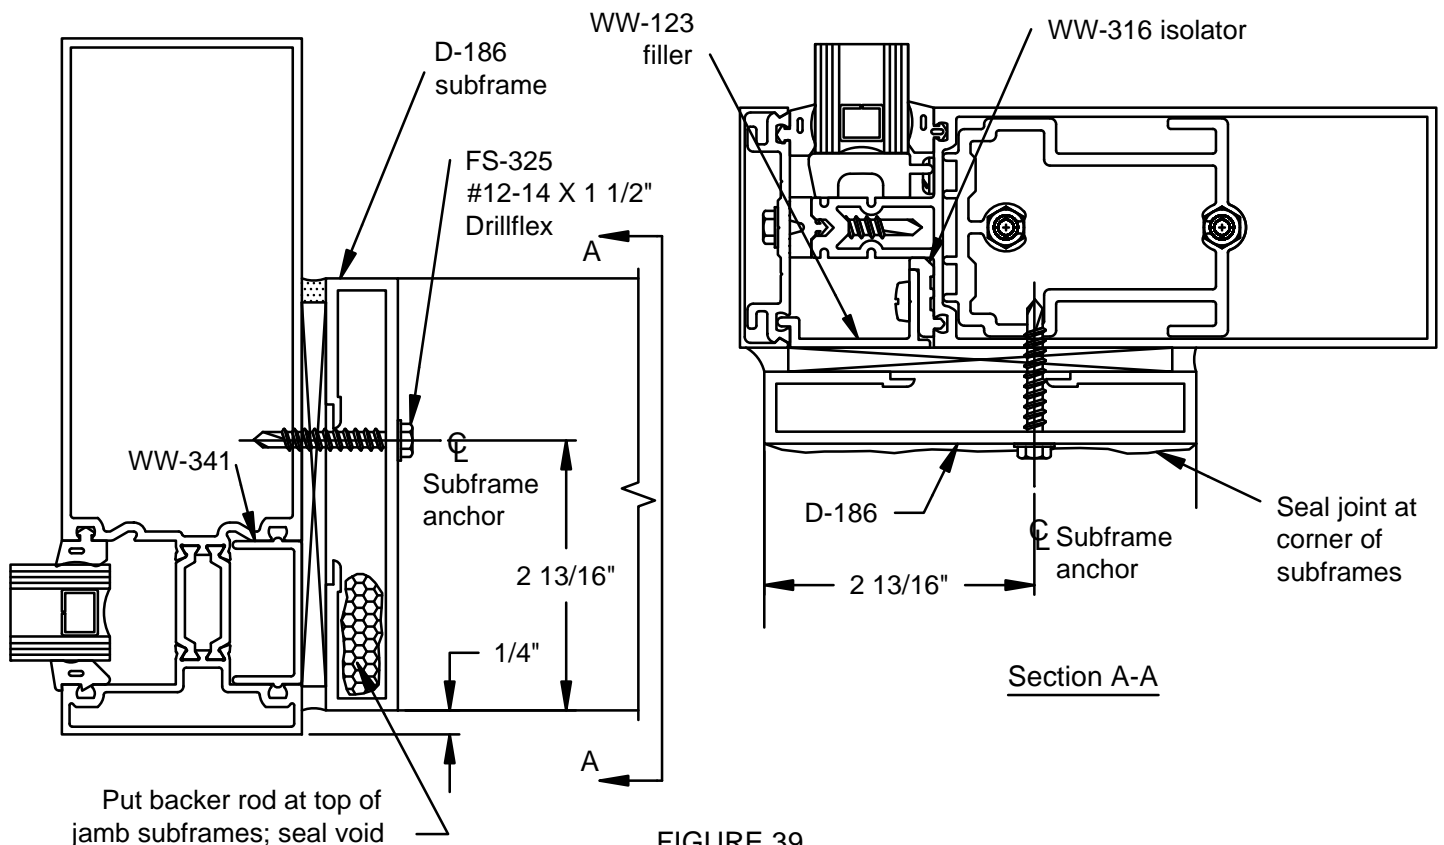

FIGURE 39
- C.2.1 Attach TH-44 threshold clip to bottom of each subframe jamb with two (2) FS-256 #8 x 1 1/2" Phillips Round Head Screws
- C.2.3 Bed subframes in sealant and anchor to curtain wall framing members with FS-325 #12-24 x 1 1/2" Drillflex at 18" on center. Seal joint between jamb and header subframes. Seal also tops of jamb subframe. SEE FIGURE 39